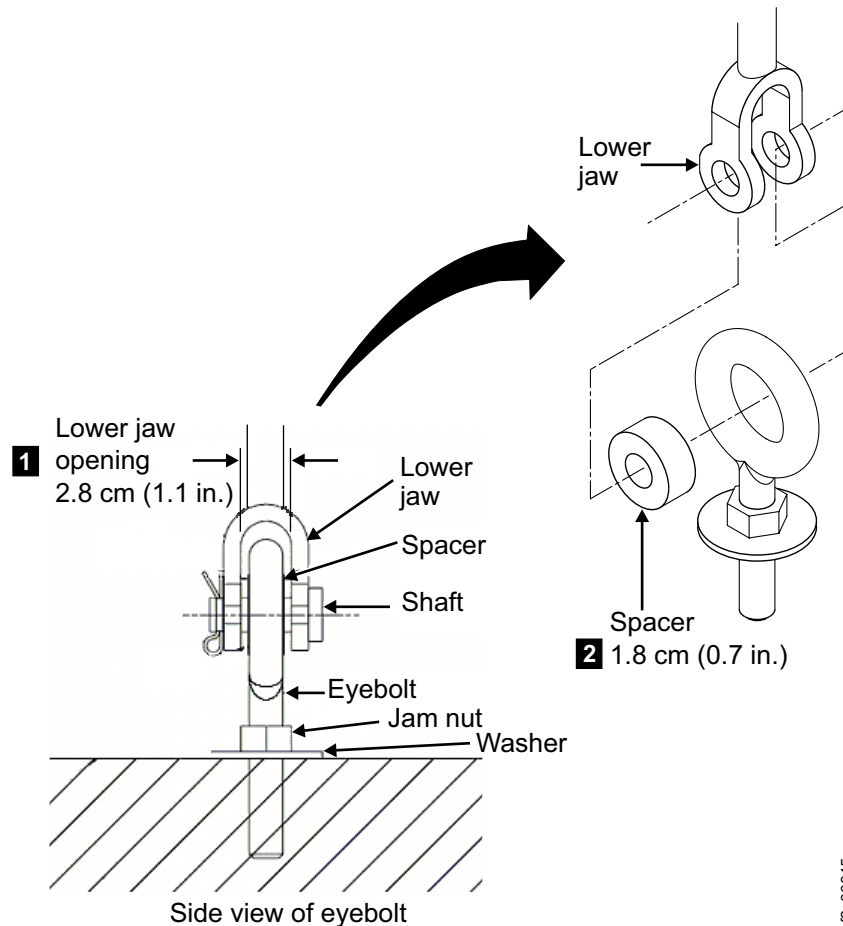

Figure 24. Eyebolt required dimensions. Dimensions are in millimeters (inches).
- The dimensions of the eyebolt must allow the turnbuckle lower jaw of the kit to fit over the eyebolt (**1** on Figure 24 on page 159) and allow the spacer of earthquake resistance kit to fit inside the eye (**2** on Figure 24 on page 159).